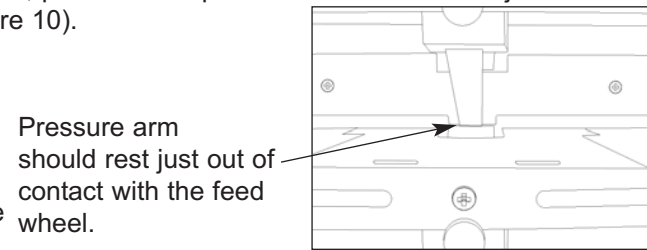

Figure 10
- Using the adjustment knob on the front of the feed shelf, position feed pressure arm so that it is just above the feed wheel. Make sure there is no contact. (Figure 10).